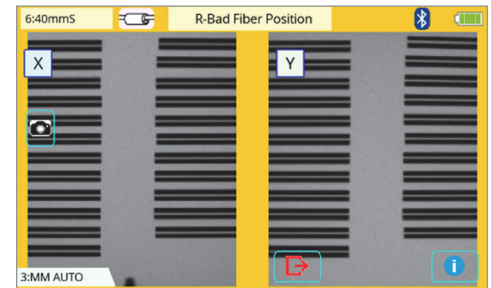

Figure 3
**L/R Bad Fiber Position** indicates the fiber is outside the field of view of the camera (**Figure 3**).